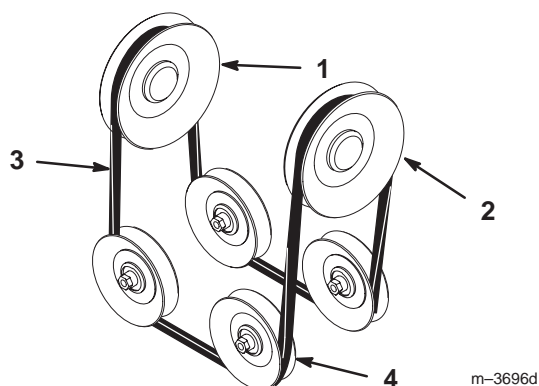

Figure 44
4. Lift up on the spring-loaded pulley and remove the snowthrower belt from the snowthrower pulley (Fig. 44).
- C. Remove the snowthrower belt from around the engine PTO pulley (Fig. 44).